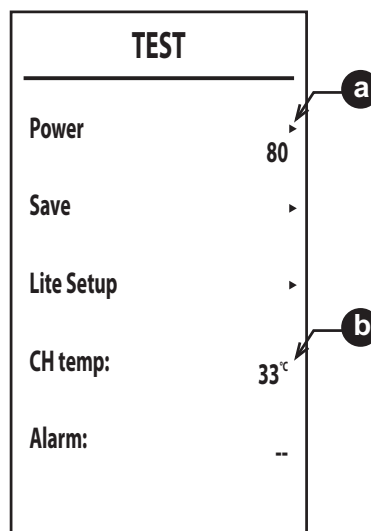

fig. 31
4. Press the heating buttons to scroll the first 3 items (Power, Save, Lite Setup - fig. 31) press the button to confirm the choice.